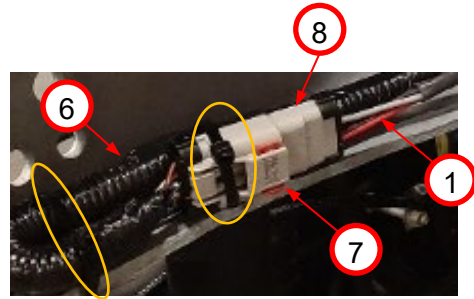

Figure 6.
11. Use side cutters to cut any zip ties securing chassis harness (1) to OEM chassis harness (6) along chassis frame crossmember. *Figure 6*
12. Unlock security tab on chassis harness 4-pin system connector (7) and disconnect from OEM 4-pin chassis harness connector (8). *Figure 6*